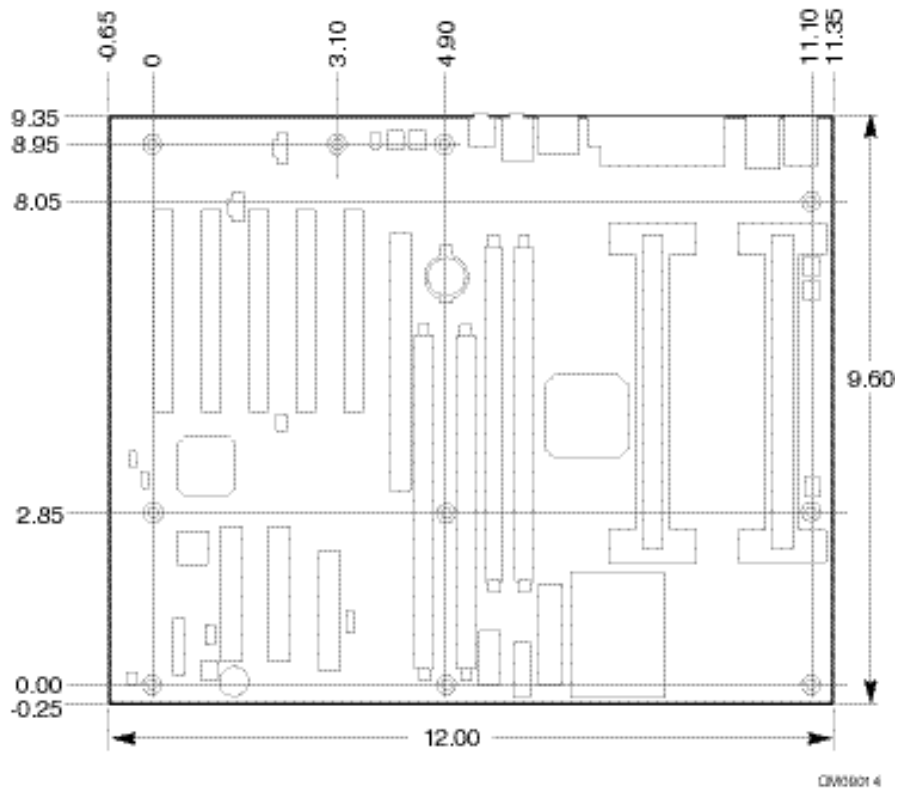

Figure 4. Workstation Board Mounting Screw Holes
3. Locate the workstation board mounting screw holes in Figure 4 that follows.